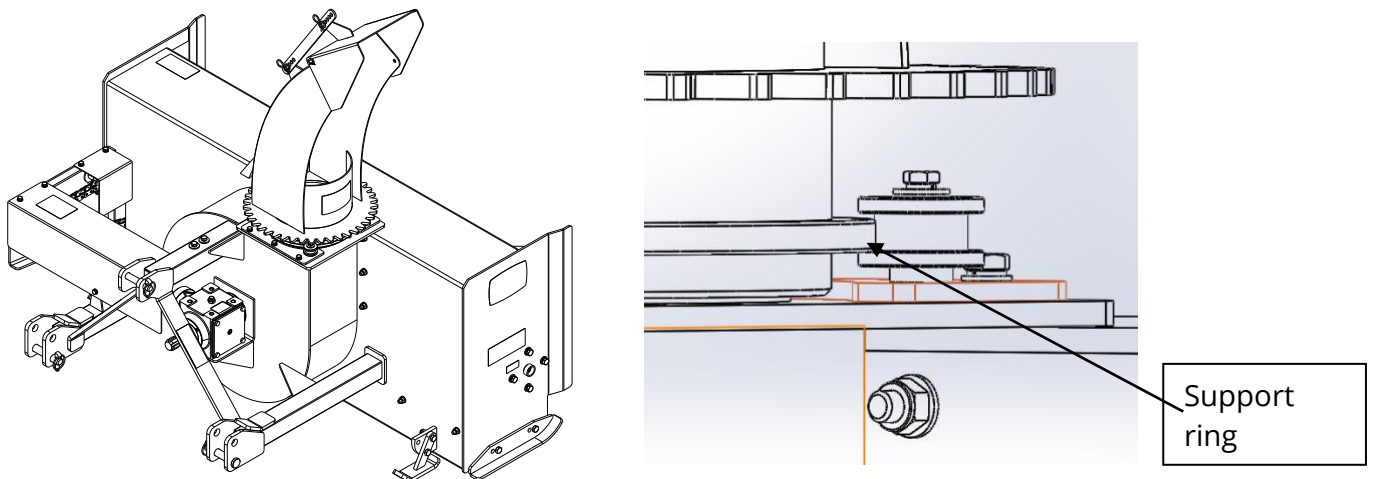

FIGURE 7: *Discharge Chute Assembly, Snow Spray Mask, and Fittings assembly*
- d. Install above components onto the snow blower as **Figure7**.